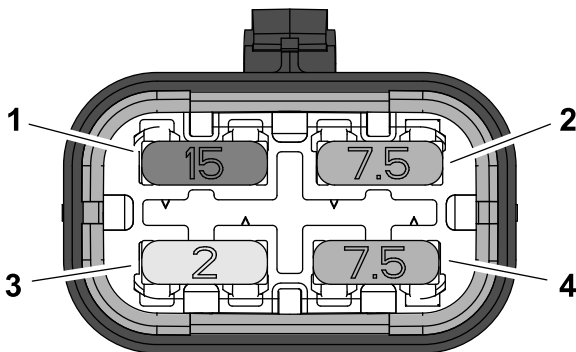

Figure 43
2. Remove the open fuse from the fuse block (Figure 43).
3. Insert a new fuse into the fuse-block slot (Figure 43).